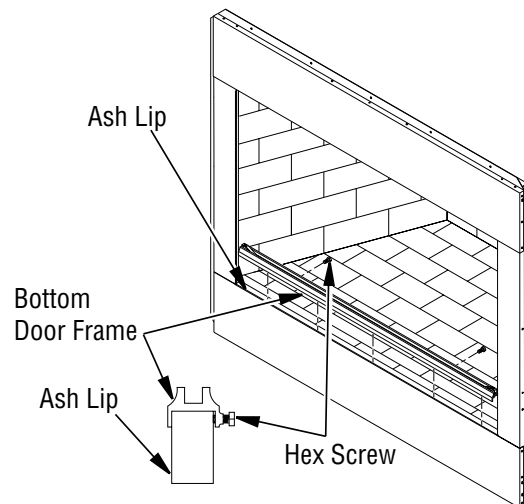

Figure 40 - Installing Bottom Door Frame
3. Place bottom door frame on top of ash lip at front of fireplace (see Figure 40).
4. Secure bottom door frame to brick with two hex screws provided as shown in Figure 40 using a 7/16" open end or adjustable wrench.